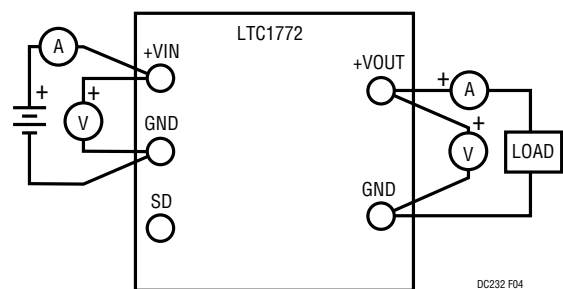

Figure 4. Correct Measurement Setup
2. Connect the load between the V_{OUT} and GND terminals. Refer to Figure 4 for proper measurement equipment setup.
When measuring voltage regulation, all measurements must be taken at the point of regulation. This point is where the LTC1772 control loop looks for the information to keep the output voltage constant. This information appears between Pin 3 and Pin 2 of the LTC1772. For output voltages above 0.8V, the voltage at Pin 3 can be adjusted by the resistor divider network. These points correspond to the output terminals of the demonstration board. Test leads should be attached to these terminals and the load should be attached as close to these terminals as possible. This applies to line regulation (input-to-output voltage regulation) as well as load regulation tests. In performing line regulation tests, always look at the input voltage across the input terminals. Refer to Figure 4 for proper monitoring equipment configuration.